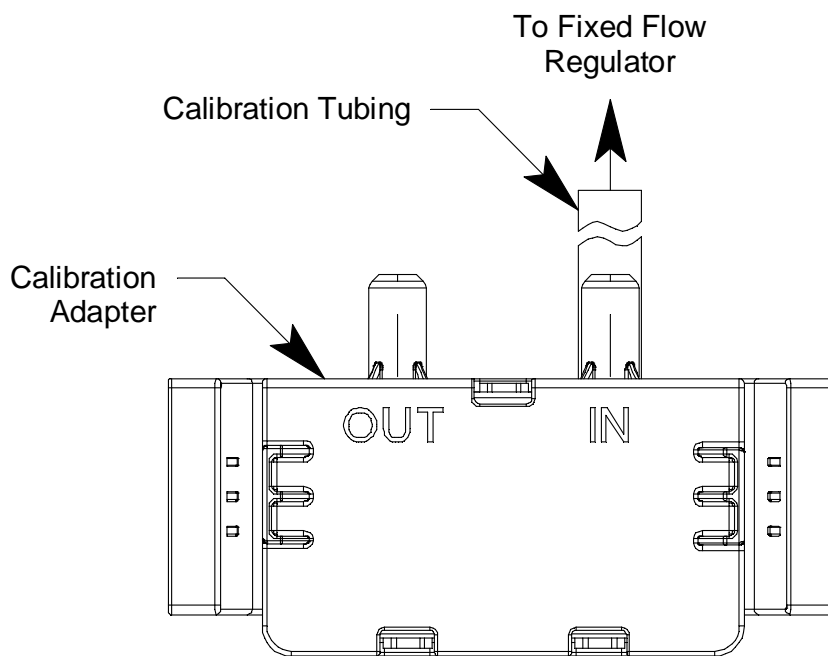

Figure 5: Calibration Kit Assembly
4. Use the sample tubing to connect the calibration adapter to the regulator. Attach the tubing to the calibration adapter on the inlet side as shown below in Figure 5.